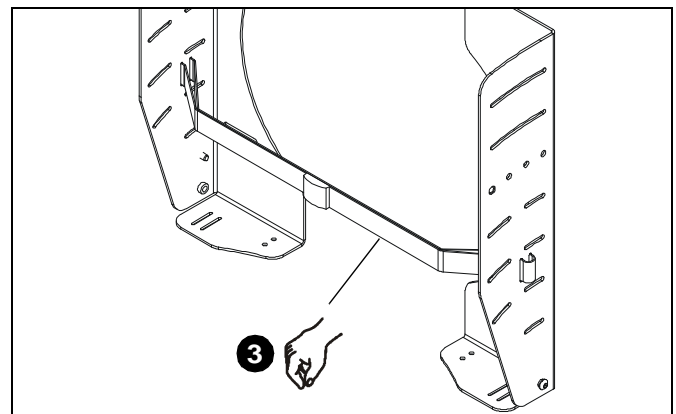

Figure 4
3. Loosely thread strap (E) through side plates so that buckle is in front (See Figure 4).